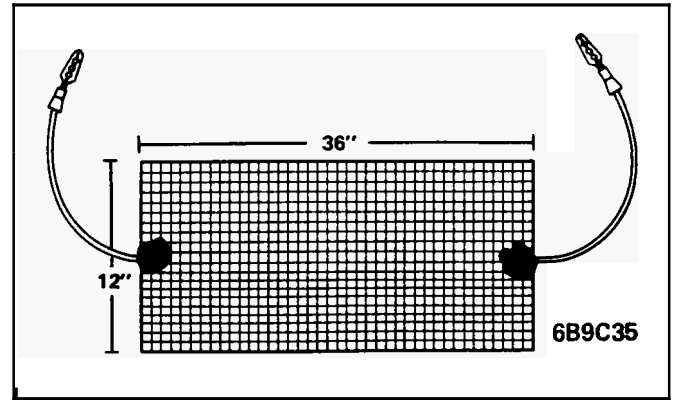

Figure 9A-49 Screen for Shielding the Dash
3. Lay the piece of screen on top of the dash (Figure 9A-50). Attach the clip leads from the screen to the car chassis (bare metal) to achieve a good ground.